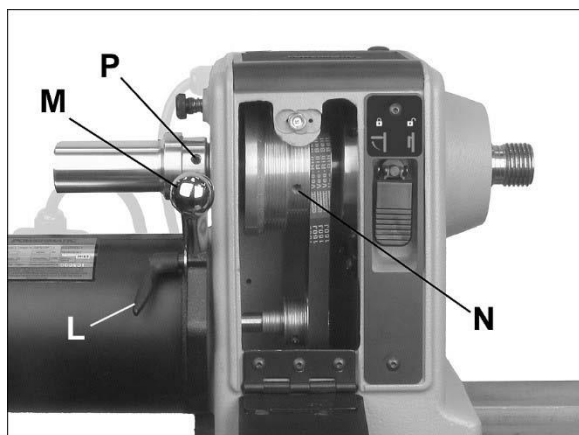

Figure 8-9: sheave/belt alignment
3. Loosen pivot lock handle (L, Figure 8-9) and lift tension handle (M, Figure 8-9) to raise motor. Tighten pivot lock handle (L, Figure 8-9) to hold motor in raised position.
5. Loosen pivot lock handle (L, Figure 8-9) and lower motor to tension belt. Be sure that V-grooves of belt seat properly in corresponding grooves of sheave. Do not overtension; a very light pressure on the tension handle (M) is adequate to prevent belt slippage.
6. Tighten pivot lock handle (L).
1. The motor and spindle sheaves are aligned by the manufacturer, but if any service is performed that affects their alignment it is very important that they be realigned. To realign them, loosen two set screws on spindle sheave (one is shown at N, Figure 8-9) with a hex key, and nudge spindle sheave into proper position. Retighten both set screws.
2. Loosen lock handle (L, Figure 8-9) and lift handle (M) to raise motor.
3. Tighten lock handle (L) to hold motor in raised position. Slip belt off lower pulley.
4. Loosen two set screws on handwheel (P, Figure 8-9) with a 3mm hex wrench, and unscrew handwheel off spindle (NOTE: Left-hand threads; rotate clockwise to loosen).
6. If replacing sheave, loosen two set screws (N, Figure 8-9), and slide sheave off spindle. Install new sheave, *loosely* securing the two set screws at first. Make sure the sheave is oriented properly.
9. Reinstall handwheel and tighten set screws (P, Figure 8-9).
10. Align new sheave (see *sect. 8.9*) then tighten two set screws (N, Figure 8-9) securely on sheave.
11. Loosen lock handle (L) and allow motor to lower. Do not over-tension; a very light pressure on tension handle (M) is adequate to prevent belt slippage.
12. Tighten lock handle (L).